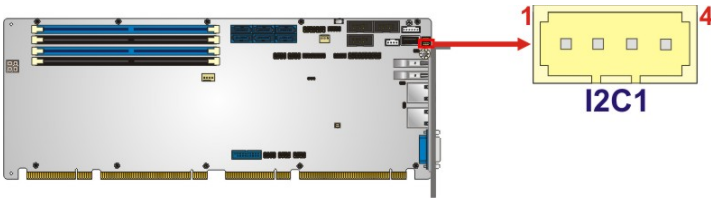

Figure 3-12: I²C Connector Location
- CN Location: See Figure 3-12